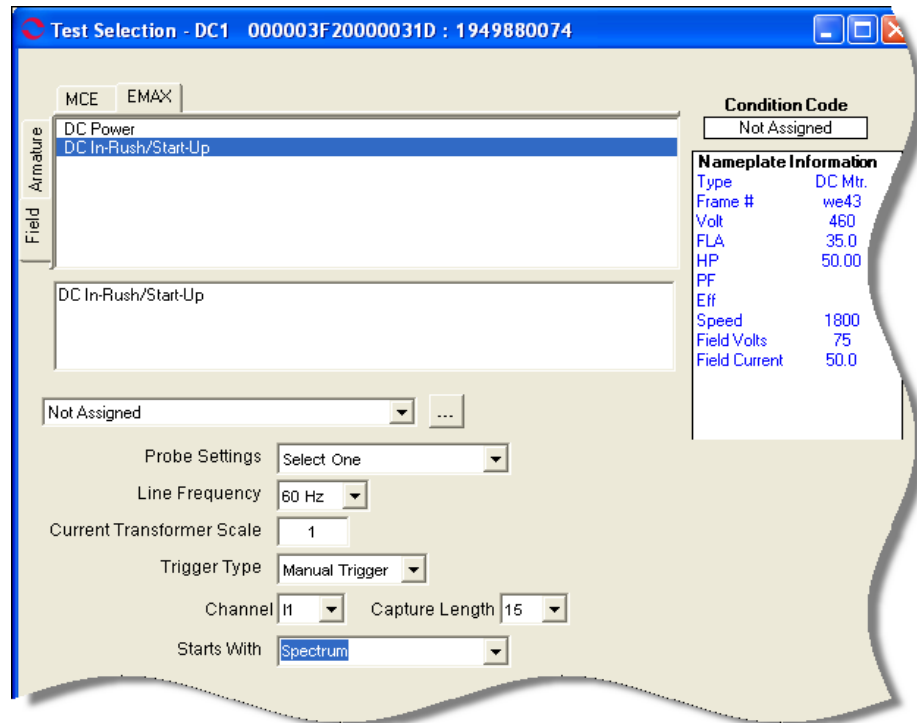

Figure 6-44: DC In-Rush/Start-Up Test Selection Window
4. Select the Test Selection icon  on the toolbar. The Test Selection window, shown in Figure 6-44 opens.